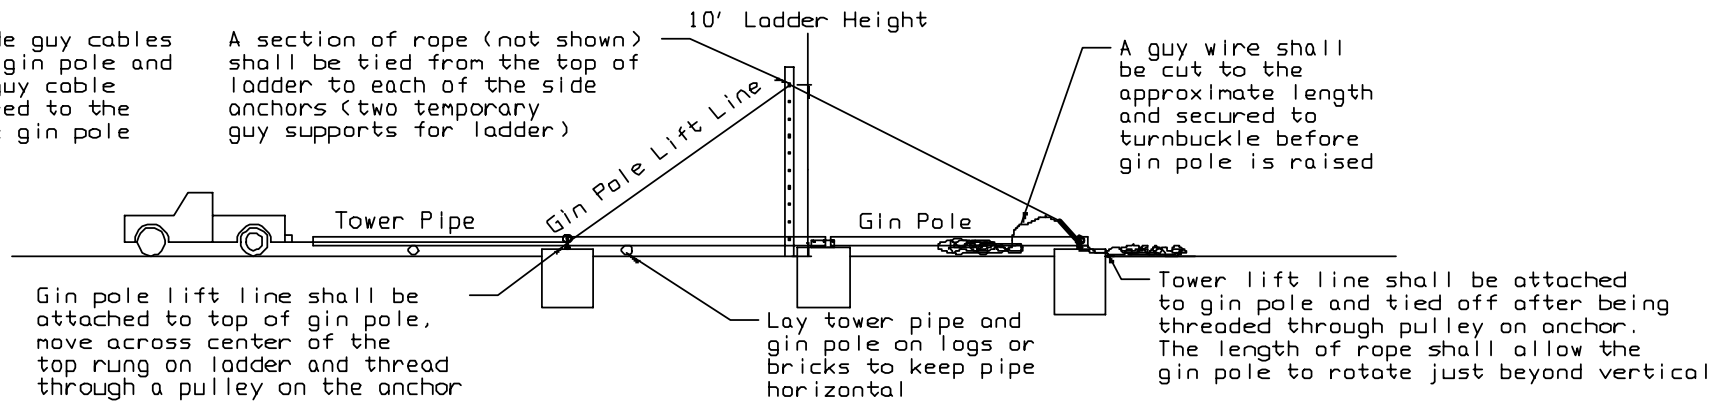
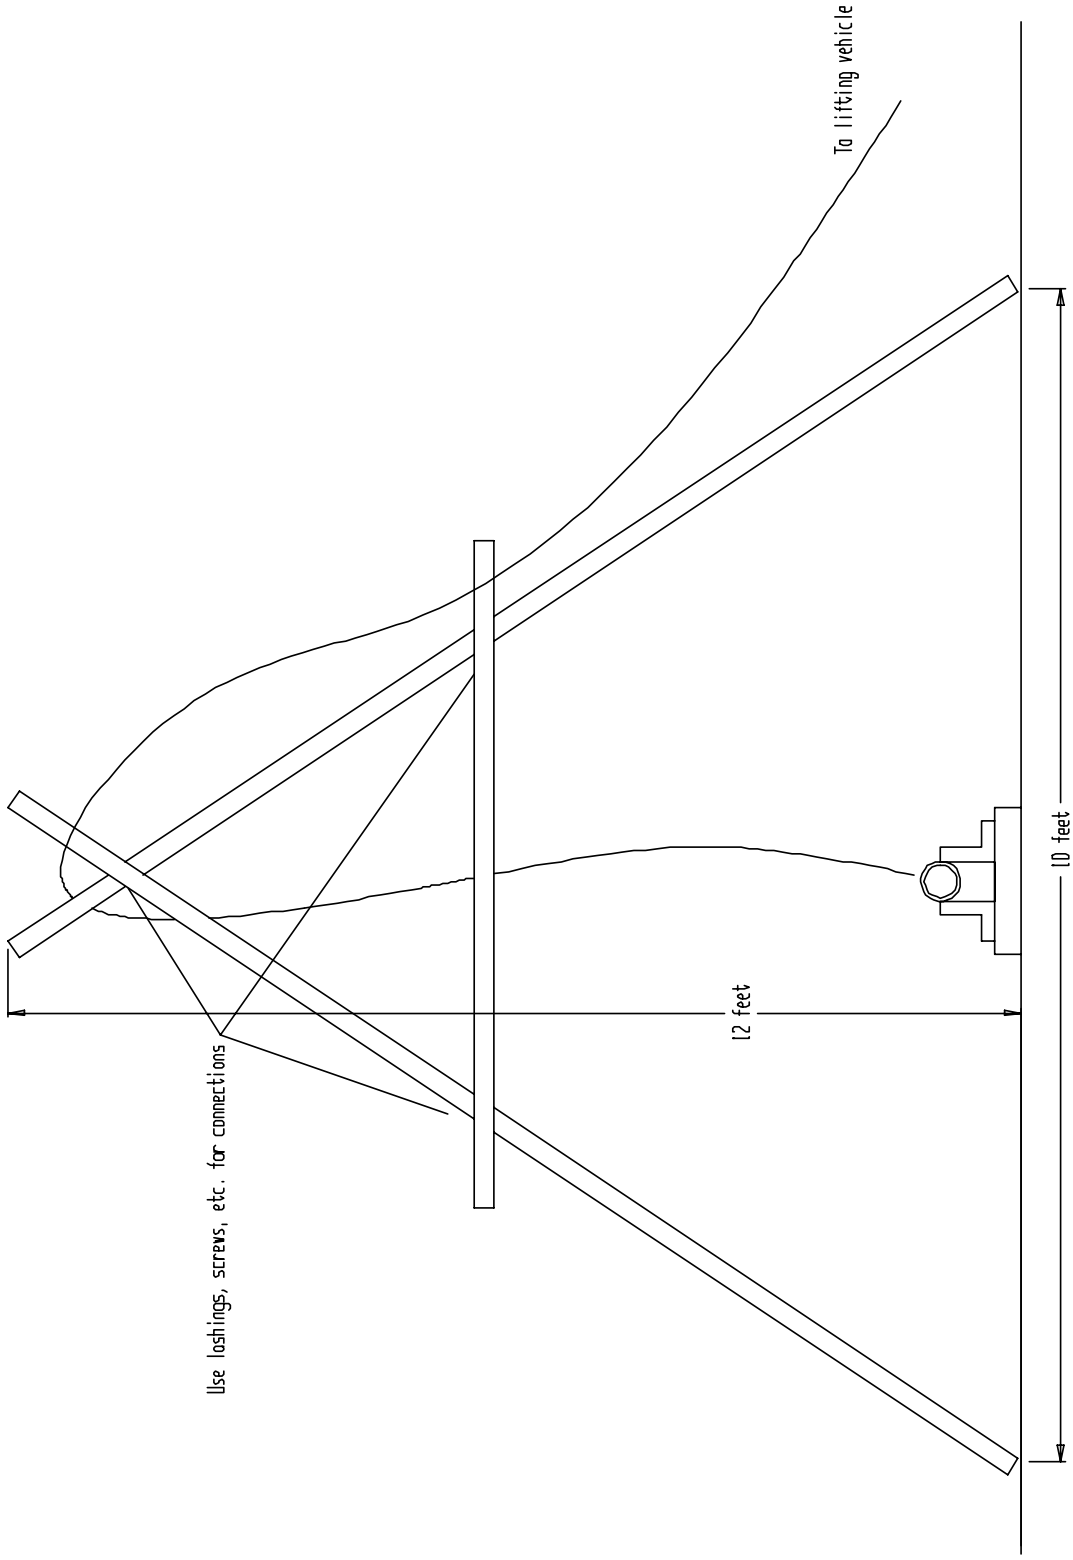

Figure 10
Figure 15
When you finish assembling the gin pole and tower pipe the installation should look like Figure 10. Remember to have on hand wood pieces or bricks to support the pipe sections 7 inches above ground. This is important since you do not want to be moving the tower and lift-pipe sections around. They are very heavy!
2. The first step to raising the tower is to raise the gin pole. The gin pole for the 42' 175 tower weighs over 300 pounds so a secondary gin pole is necessary to raise the gin pole. One option for this secondary gin pole is to use a 10' ladder with a minimum rating of at least 250 pounds (see Figure 10). Do not use a stepladder for this because it must be able to rotate on its base. The ladder should straddle the tower pipe and be located near the tower base. An extension ladder with the proper rating should work just fine. The ladder should be given side-to-side support by tying a rope from the top of the ladder to each of the side anchors. This rope should have a minimum breaking strength of 4000 lbs. These two ropes will prevent the ladder from falling to either side during the gin pole erection. If a ladder is not available, then an A-Frame can be built out of 2x4s (see Figure 15).
4. Connect the gin pole lift line to one of the turnbuckles on the gin pole. The minimum breaking strength for this rope must be 4000 lbs. The gin pole lift rope is then run across the top rung on the ladder before it goes through a pulley connected to the anchor. This pulley must be rated for at least 3000 lbs. The end of this rope should be attached to the bumper on the vehicle raising the gin pole. An alternative to a vehicle is to use an appropriately sized winch connected to the anchor (see Figure 10).